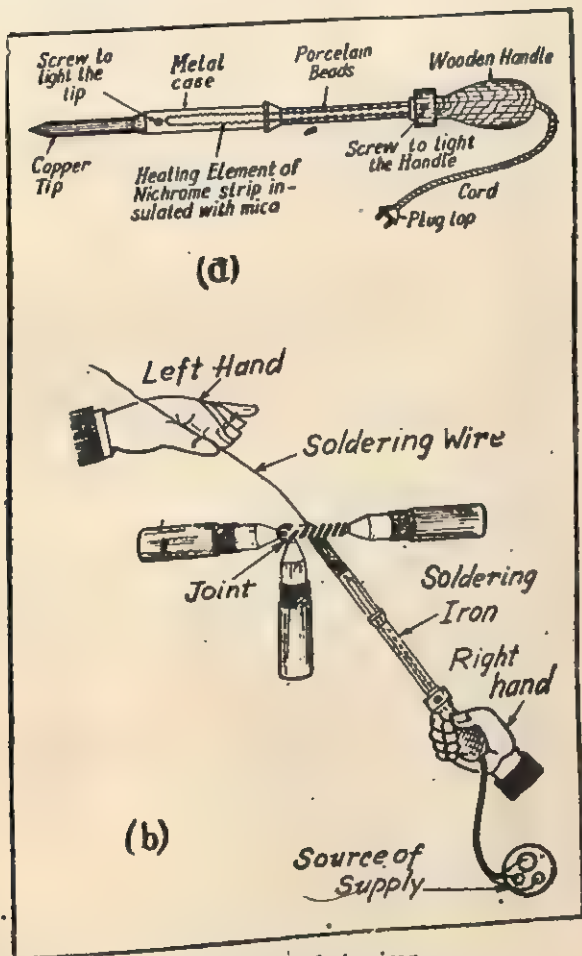

Fig. 15.1. (a) Parts of a soldering iron.
- (ii) *Soldering Iron.* It is an electrical instrument used for joining two or more ends of metal wires with the help of *solder* and the *flux*. The essential parts of a soldering iron are indicated in Fig. 15.1(a). The tip of the soldering iron which is made of copper is heated electrically.
(vi) Now join the ends and twist them as shown in Fig. 15.1(b). Now heat this joint with the iron tip and simultaneously apply the solder as detailed in Fig. 15.1(b).